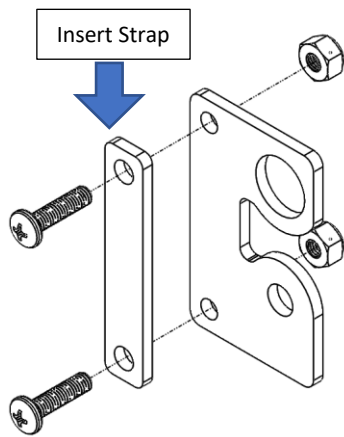

Figure 5: Strap Clamp Assembly
- 18. Install the door strap onto the hard stop bracket using the strap clamp to secure it. Feed the strap clamp through the largest eyelet in the strap and bolt it to the hard stop bracket. Direct the strap towards the lower hinge when tightening down the clamp. Reference Figure 5 and 6.